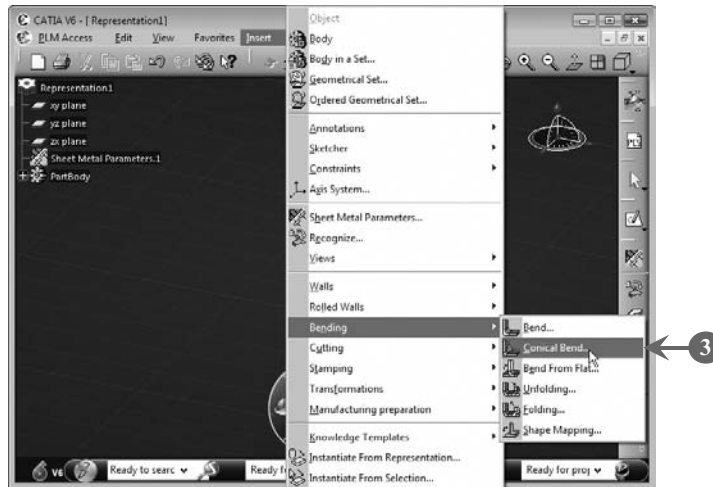

FIGURE 6.47
3. Select **Insert>Bending>Conical Bend** from the menu bar to create a conical bend, as shown in **Figure 6.47**: